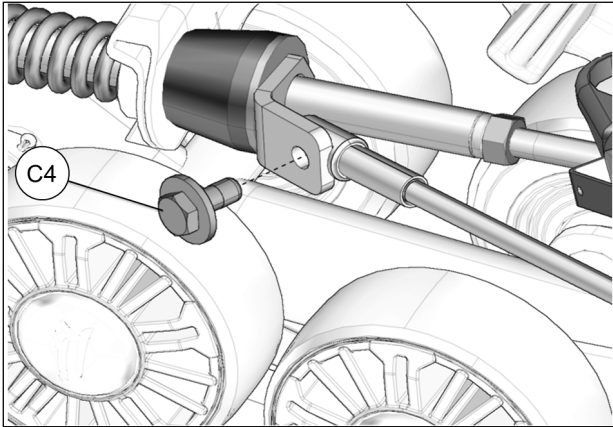

Fig. 28
18. Reverse steering wheel a little to be able to bolt support plate and cable together. Tighten provided bolt (C4) to 35 N•m [24 lb•ft]. See Fig. 28. Repeat steps on right side.